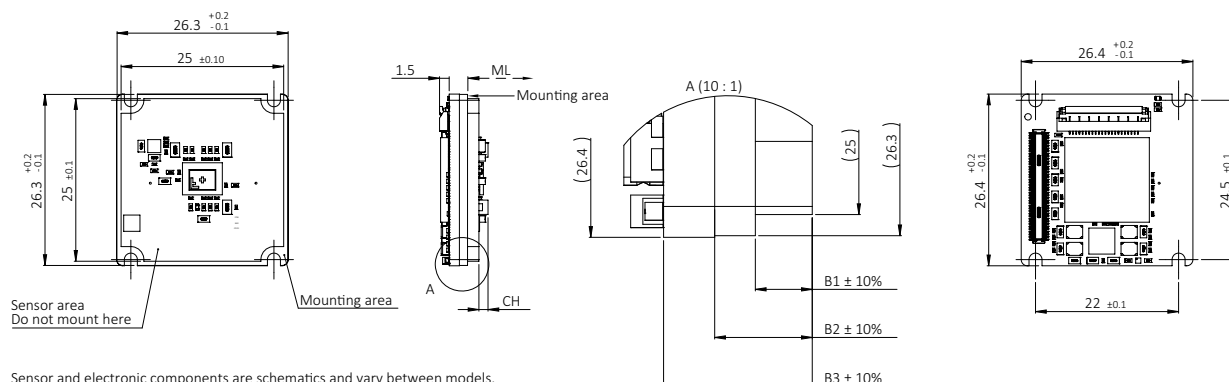

Figure 62: Bare Board (standard Alvium) dimensions
Dimensions that are common between different models are shown in Figure 62, model specific dimensions are listed in Table 85. **Mechanical length (ML)** defines the mechanical distance from the mounting area to the lens mount front flange, without optical filter. **Components height (CH)** relates to the electronic components with maximum height, sometimes the sensor.